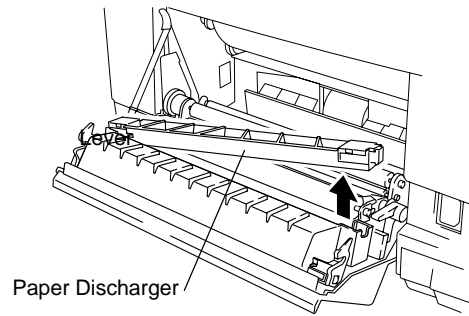

Fig.6-22
- 1) Pull the right hand side of the paper discharger slightly, then lift it out of the transfer unit to remove the paper discharger. (Fig.6-22)